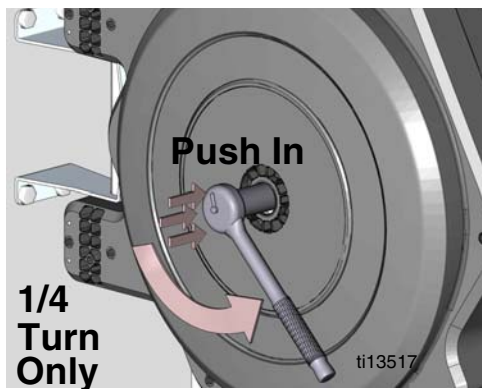

FIG. 4
- Push in on ratchet. Grasp handle firmly with both hands; then turn and ratchet counter-clockwise, 1/4 turn ONLY (FIG. 4).